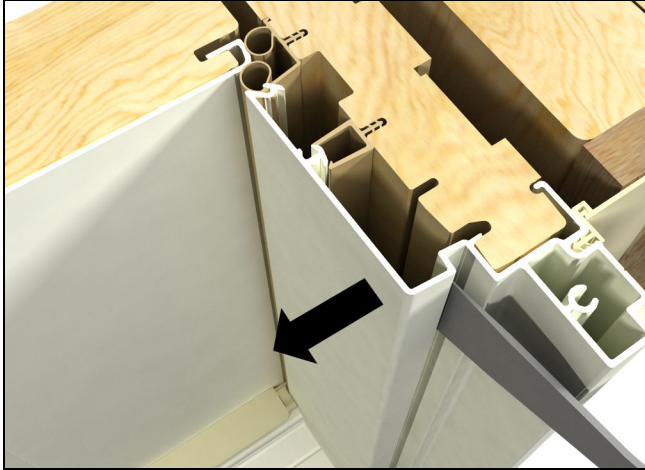

Figure 14 Need to update
1. Starting at the top of the part stop insert a stiff putty knife or pry bar between the stop and frame. Gently press inward and pry the stop out of the exterior kerf. See Figure 14.